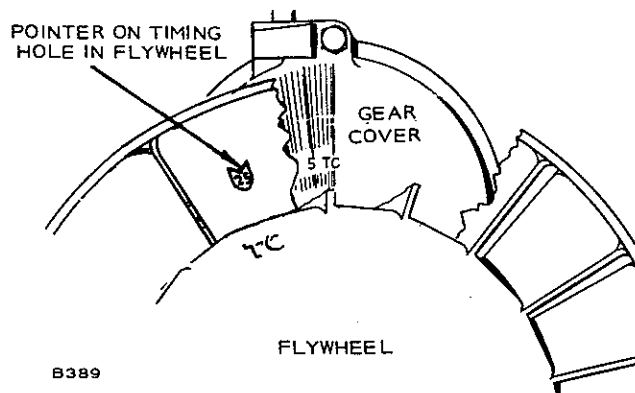

FIGURE 10-34. NHP FLYWHEEL TIMING HOLE
2. Start engine and check timing. Timing pointer on flywheel should line up with 25° mark on cover. The timing hole through the flywheel and the timing marks on the timing gear cover can be seen by looking through the flywheel blower screen. See Figure 10-34.